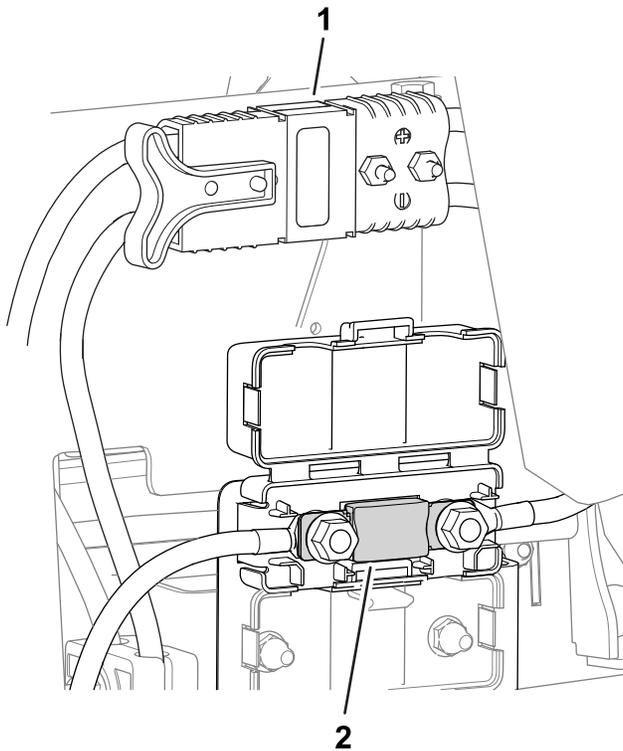

Figure 46
- The fuse for the electrical system is located under the main-power connectors (Figure 46).